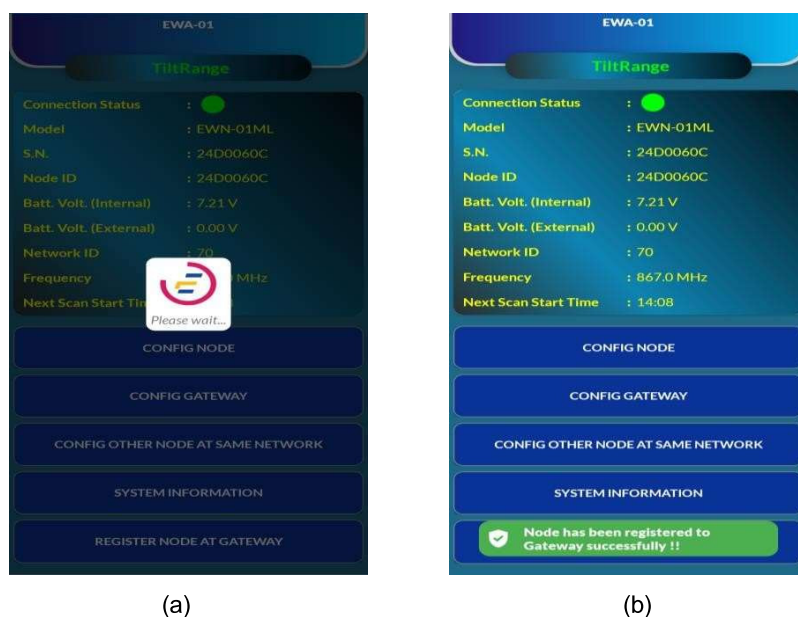

Figure 6-13
- Click on the "Register Node At Gateway" tab from the main menu. While registering, a progress bar will popped up as shown in the figure 6-13 (a) to confirm the process.
- Once the node is registered with the gateway, a prompt window for successful registration will pop-up as shown in the figure 6-13 (b).